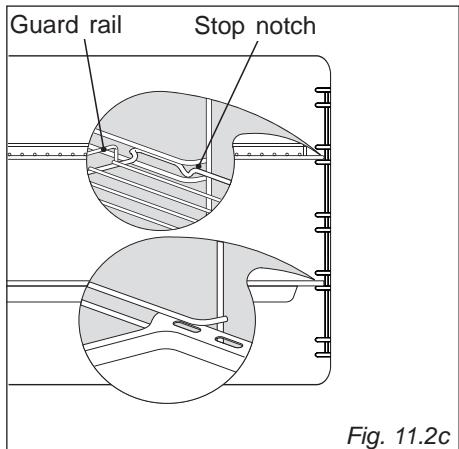

Fig. 11.2c
- Slide in, on the guides, the shelf and the tray (fig. 11.2c).